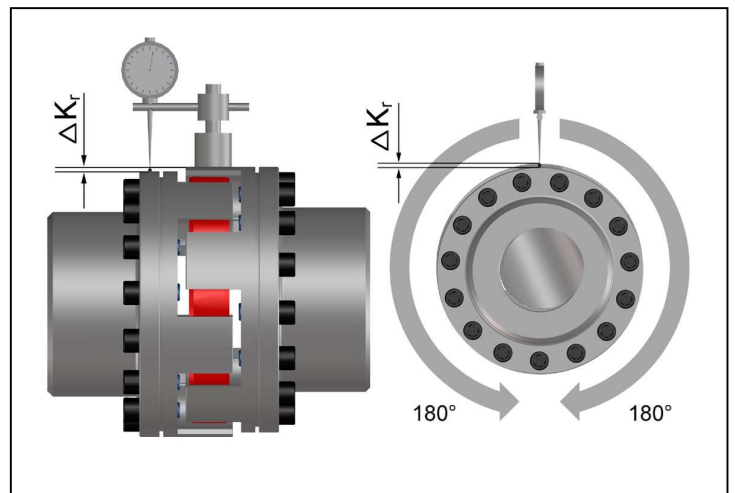

Fig. 8
- Measure one complete revolution (360°). Determine the largest deviation Kr1 and the smallest deviation Kr2 (Fig. 8). Calculate the radial misalignment: